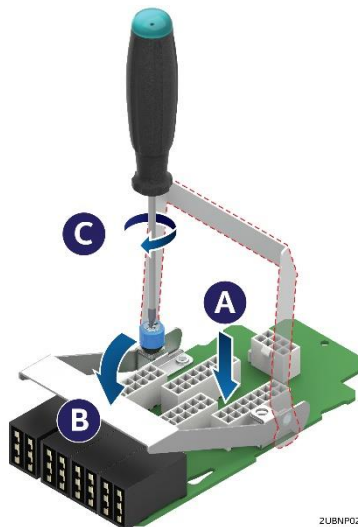

Figure 56. Installing the power interposer board
Place the power interposer board into the compute module (A), rotate the bracket counterclockwise all the way (B), and tighten the screw (C) as pictured in Figure 56.